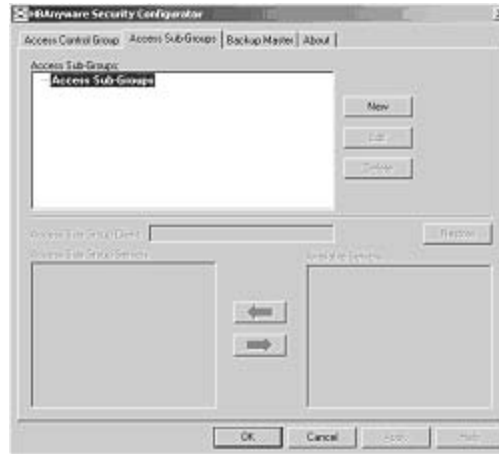

Figure 45: Access Sub-Groups tab with No Sub-Groups Created
1. Click the **Access Sub-Group** tab (see Figure 45 on page 91).